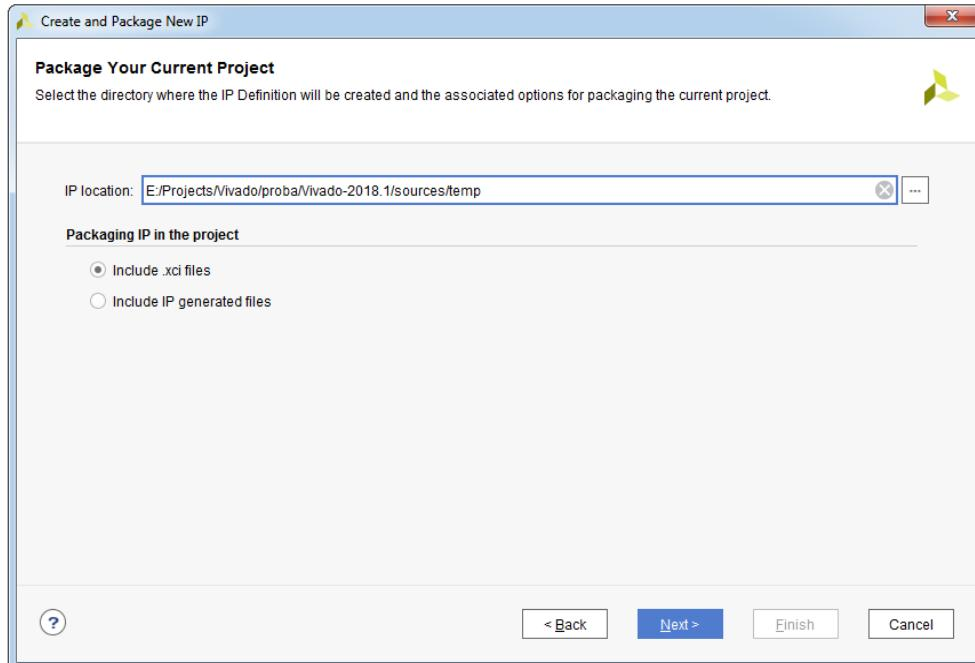

Figure 12.17: Package Your Current Project dialog box
17. In the **Package Your Current Project** dialog box, choose **IP location** and type of the **Packaging IP in the project**, see Figure 12.17.